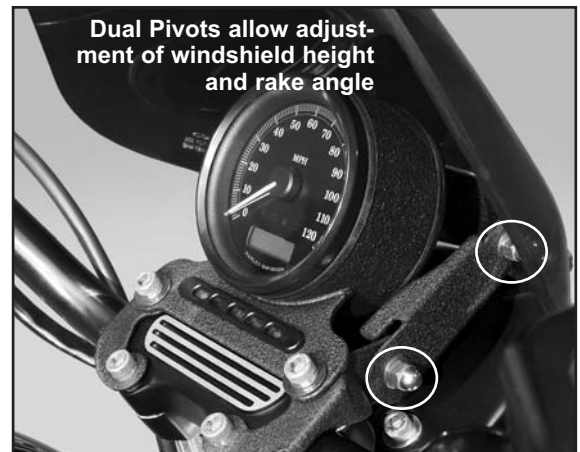

Figure 3, pictured on a XL1200
5. Tighten the four Bolts holding top clamp securely. **(17 ft/lb or 23 Nm) (1/4" Allen Wrench) Figure 3**